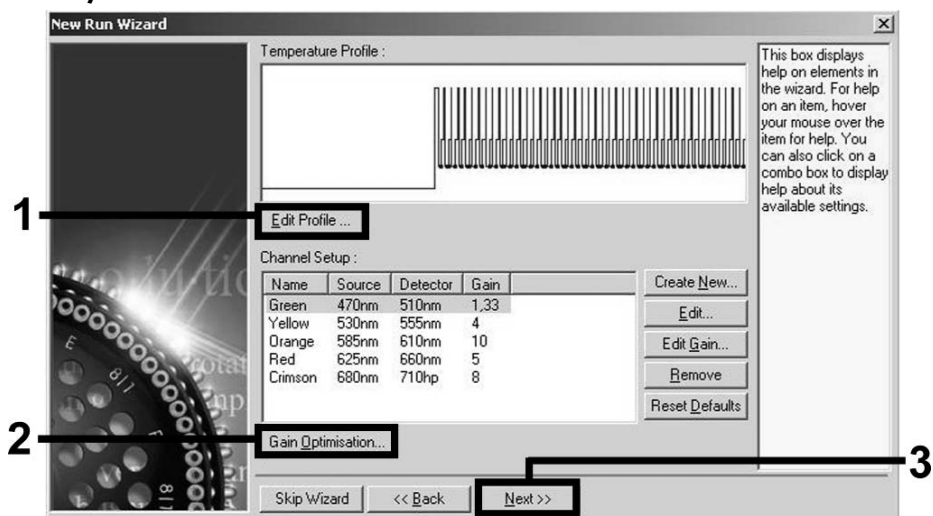
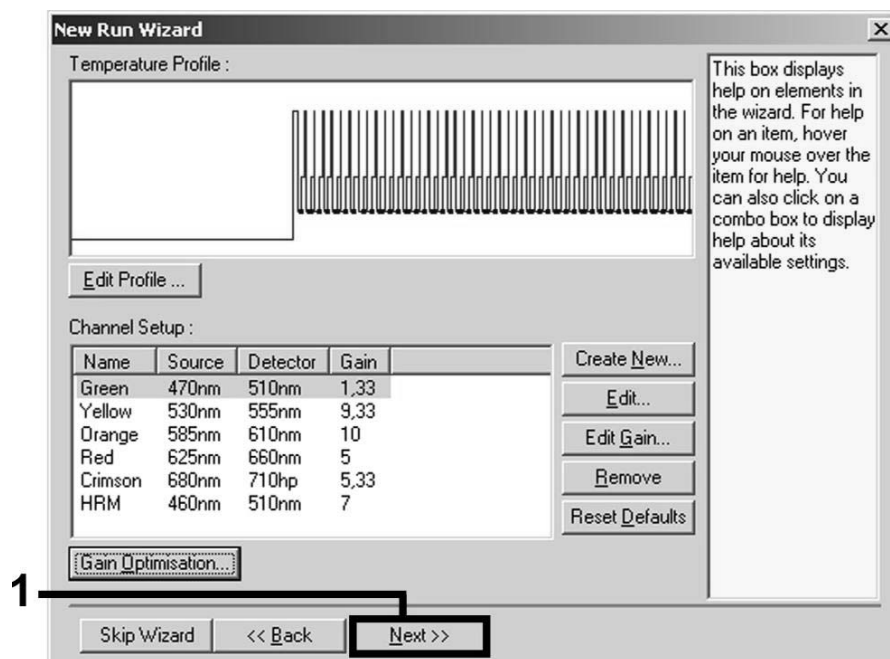

Figure 3. Editing the profile.
Figure 8. The “New Run Wizard” dialog box.
Starting the run	Figures 8, 9
8. Click the “Edit Profile” button in the next “New Run Wizard” dialog box (Figure 3), and program the temperature profile as shown in Figures 3–6).
9. The detection range of the fluorescence channels has to be determined according to the fluorescence intensities in the PCR tubes. Click "Gain Optimisation" in the "New Run Wizard" dialog box (see Figure 3) to open the "Auto-Gain Optimisation Setup" dialog box. Check the box "Perform Optimisation before 1st Acquisition" (Figure 7). In the "New Run Wizard" dialog box, click "Next" (Figure 8).